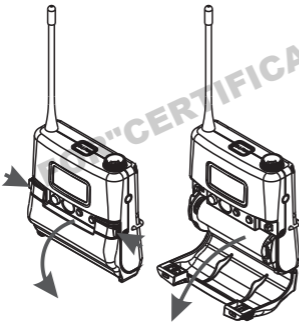

Fig. 24
1. Press the side hooks to open battery compartment. Remove the battery carefully, Fig. 24.